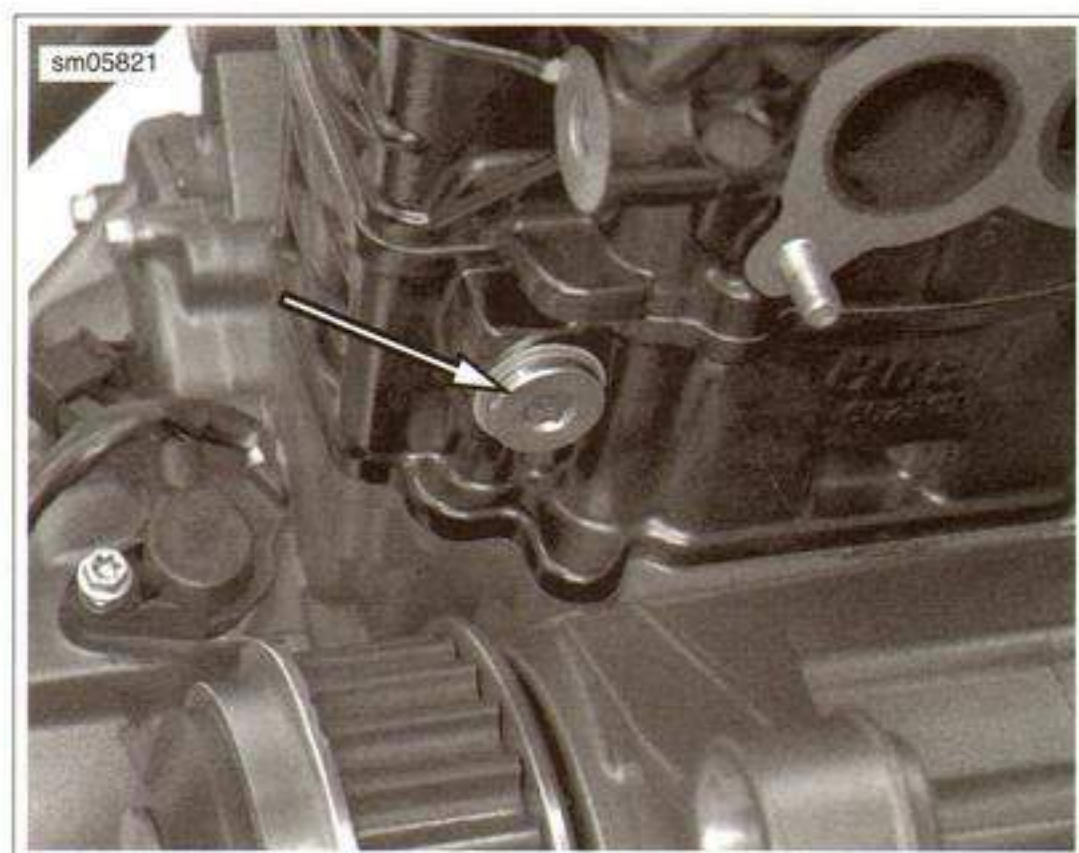

Figure 3-67. Camshaft Chain Tensioner Plug
6. See Figure 3-67. Remove camshaft chain tensioner plug of cylinder being serviced.